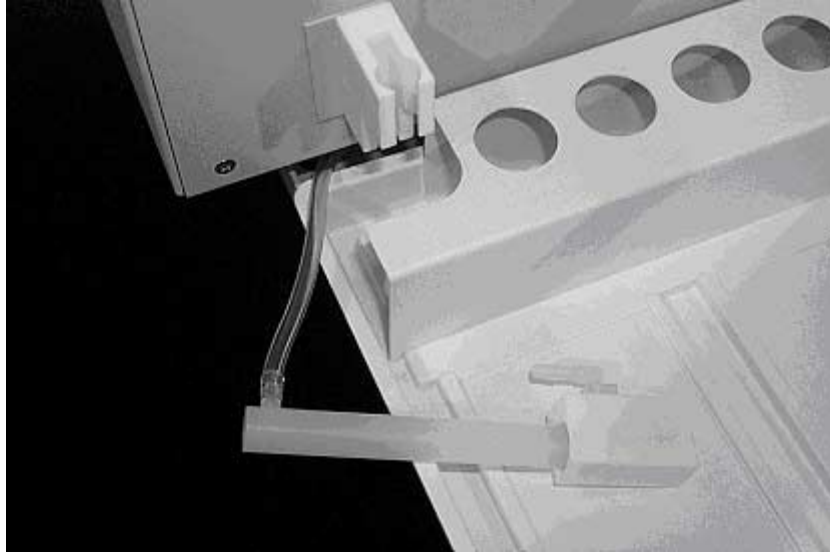

**Figure 1-3.** Z-drive removed from arm assembly.
2. Next, remove the whole Z-drive assembly from the arm by pulling the whole Z-drive assembly forward and off the Auto-Sampler arm. See Figure 1-3.